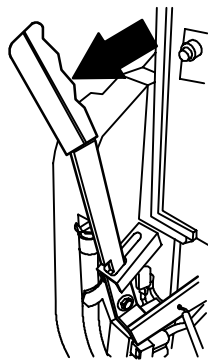

FIG. 3
1. Pull squeegee lever outward and to the right to lock the squeegee pivot bracket in the raised position (Figure 3).